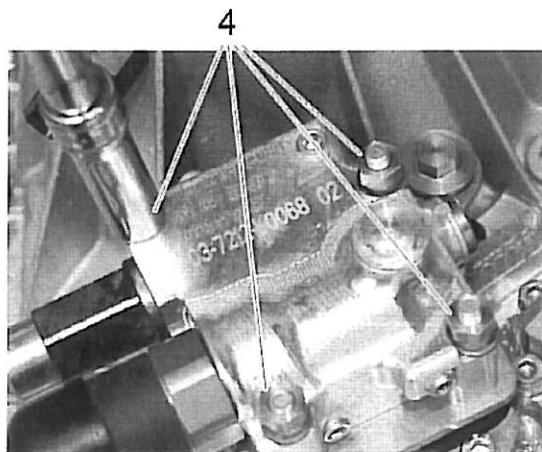

Figure 22
16. Fit one special nut (item 4) onto each of the stud bolts and tighten up the four special nuts (item 4) proceeding cross-wise to the specified tightening torque. See Figure 22.